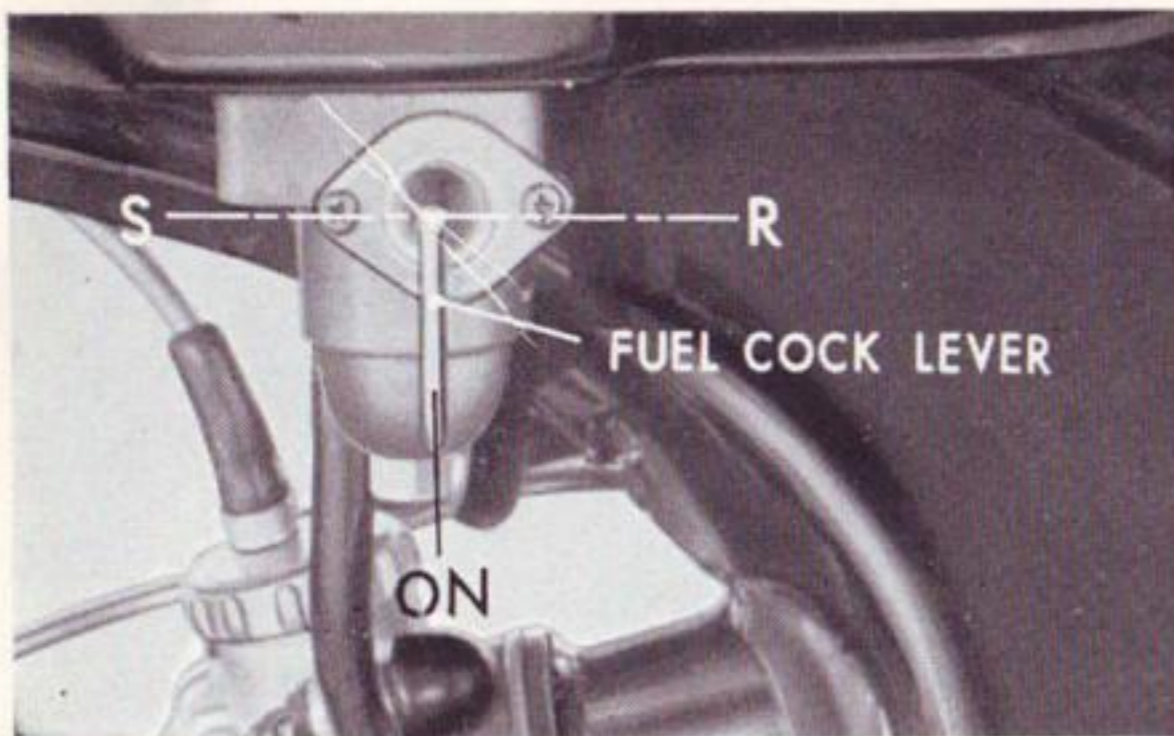

Fig. 7
1. Turn the fuel cock lever to the "ON" position. (Fig. 7)